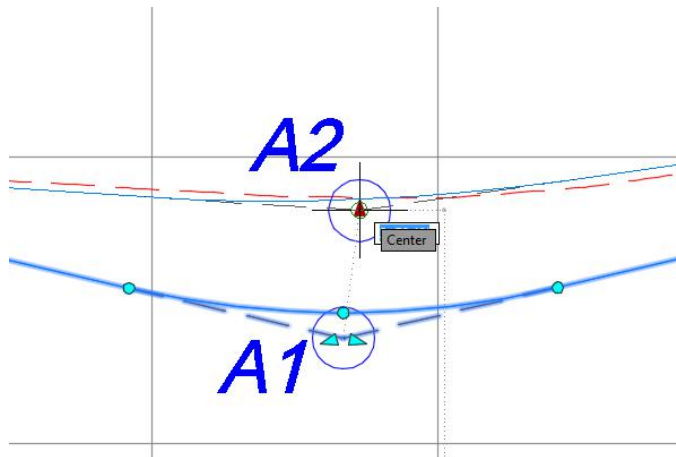

FIGURE 7.3 Moving a PVI grip
2. Click the blue Jordan Court FGCL profile to display its grips. Click the upright triangular grip located in the circle marked A1, and drag it to the center of the circle marked A2, as shown in Figure 7.3.